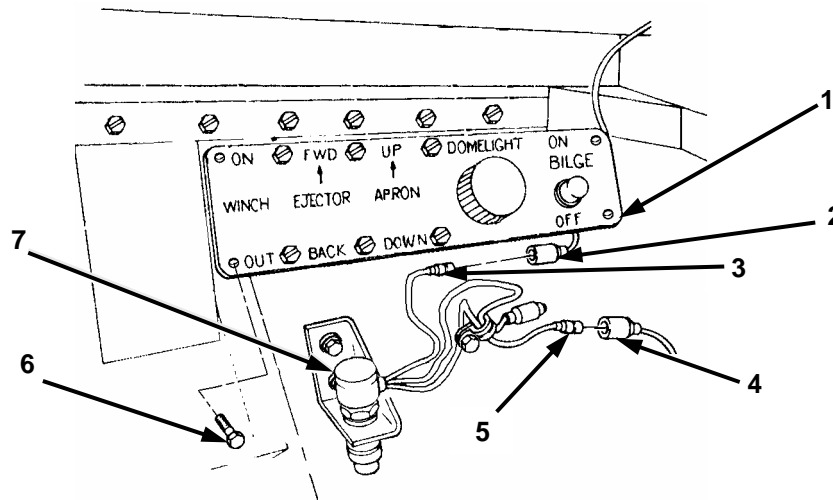
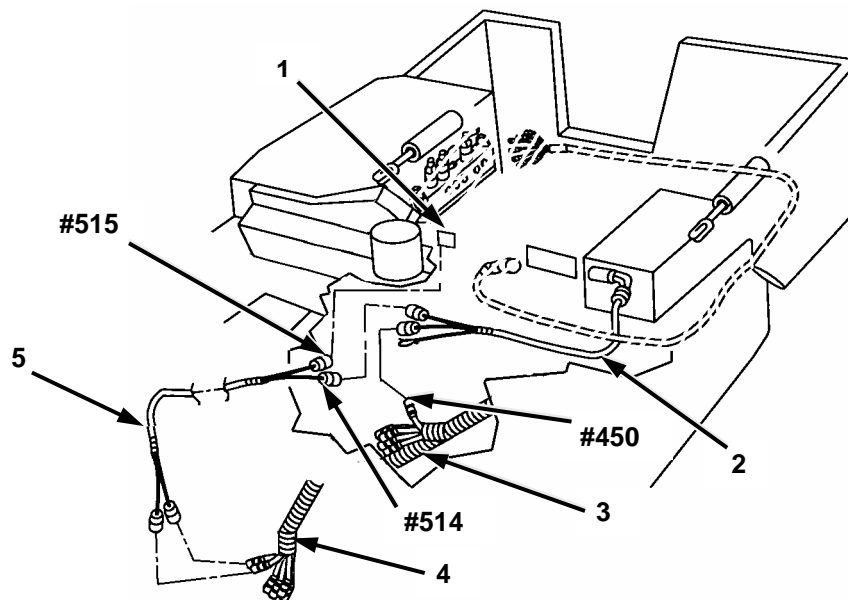

Figure 2-40. Ejector Panel.
Figure 2-41. Blade Folder Harness.
10. Remove four screws (Figure 2-40, 6) on ejector panel (1) and move panel downward, retaining screws for future use.
11. Remove control harness lead #450 (Figure 2-40, 4) from bilge pump switch (7) lead (5).
12. Remove bilge light lead #450 (2) from bilge pump switch (7) lead (3).
13. Connect hull wiring harness leads (Figure 2-41, 4) to blade folder harness 12491607 (5), matching lead numbers.
14. Route blade folder harness (5) through opening on lower left side into driver's compartment behind ejector panel.
15. Route control box power harness (2) behind ejector panel.
16. Connect blade folder harness lead #514 to control box power harness (2).
17. Connect bilge pump light lead #450 (Figure 2-40, 2 and Figure 2-41, 1) to blade folder harness lead #515.
18. Connect control harness lead #450 (3) to control box power harness (2).